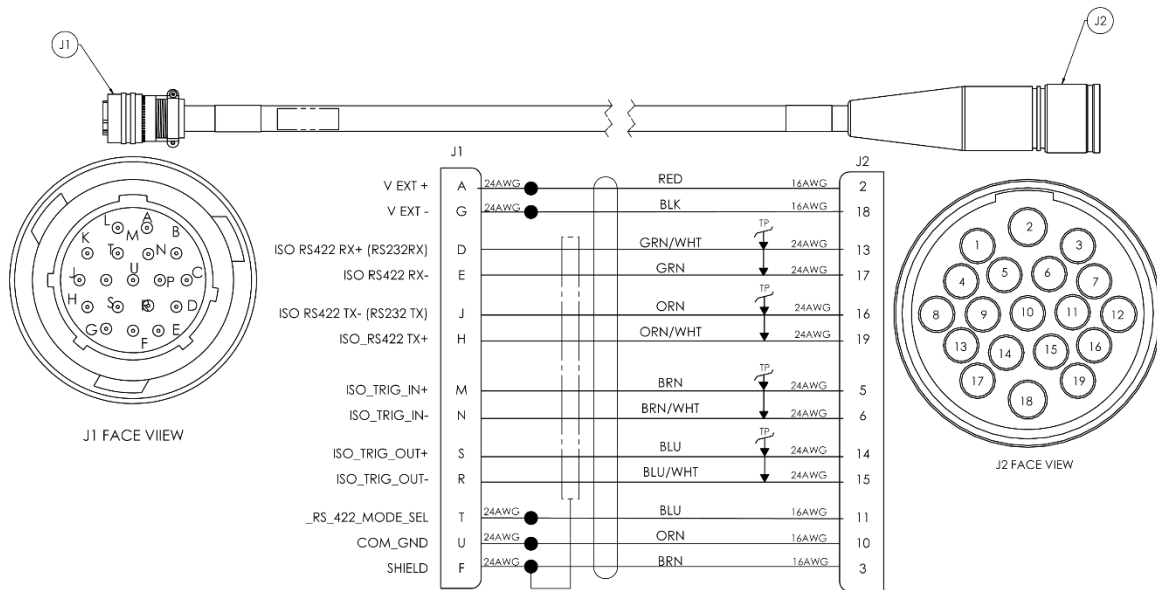

Figure 10. Power/Data/COM Cable, Deck Box, RS422/RS232 73B-6082-xxx
- 73B-6082-xxx Cable, RS422/RS232, Serial, Pinnacle (see Figure 10)